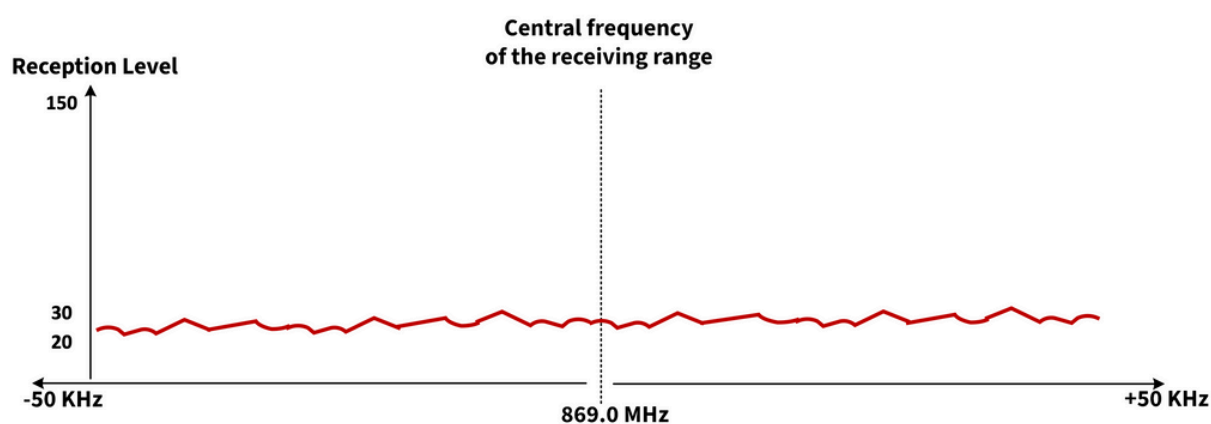

FIG. 11. APPROXIMATE VIEW OF A NORMAL RADIO ENVIRONMENT
- Low noise level with no significant interference in the gateway's operating frequency range (see Fig. 11).